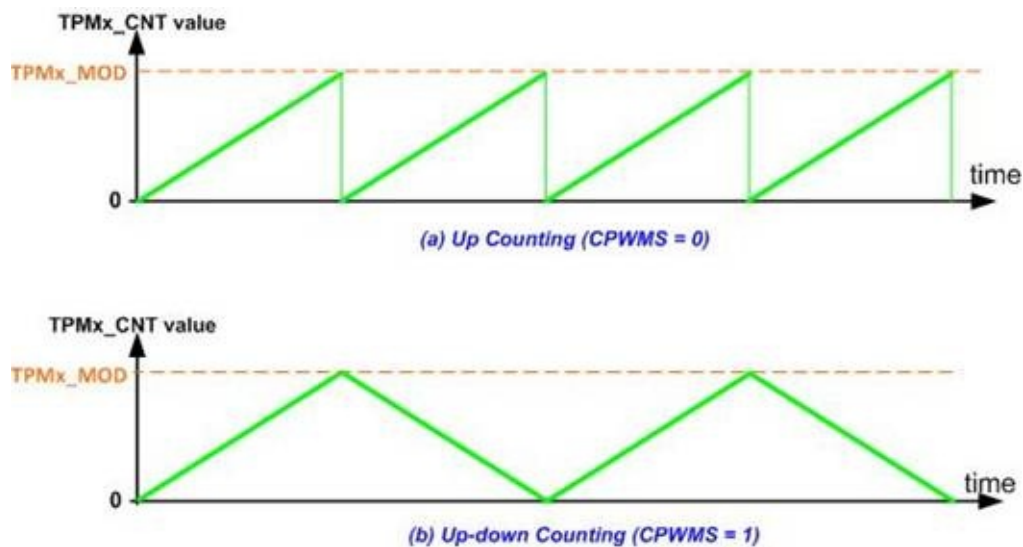

Figure 11-13: Up/Down-Counter and Up-Counter
- 2) **Count Up-Down:** counts up from 0 until it reaches the MOD value. After reaching the MOD value, it turns around and counts down to 0. And upon reaching 0, it repeats the process. We must make CPWMS=1 to get this option. See Figure 11-13.